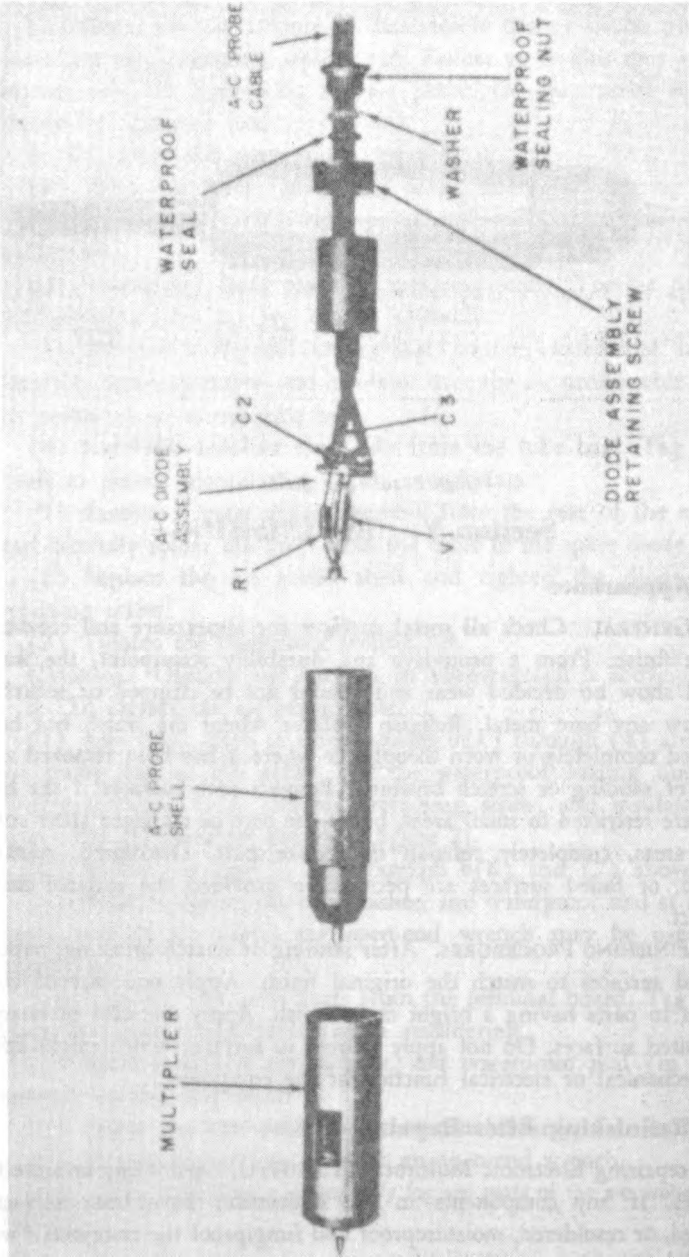

Figure 21. Exploded view of a-c probe.
(1) With one hand, grasp the diode assembly retaining screw to prevent it from turning; with the other hand, loosen the waterproof sealing nut.
(2) Loosen the diode assembly retaining screw. The a-c probe shell will separate from the rest of the assembly.
(3) Slip the waterproof sealing nut, washer, waterproof seal, diode assembly retaining screw, and insulator over the a-c probe cable (fig. 21) to permit access to the tube base.
(4) Carefully unsolder the cable from the tube base. Tag the cable leads to permit identification when resoldering.
(5) Remove a spare diode assembly from the rear of the multimeter and carefully solder the leads from the cable to the spare diode assembly.
(6) Replace the a-c probe shell and tighten the diode assembly retaining screw.
(7) Tighten the waterproof sealing nut.
(1) Repeat the steps in subparagraph b(1) through (4) above at the a-c probe end of the cable. Put the waterproof sealing nut, washer, waterproof seal, diode assembly retaining screw, and insulator on the new cable in the order shown in figure 21.
(2) Repeat the steps in subparagraph b(6) and (7) above.
(3) Remove the sealing nut, washer, and waterproof seal at the multi-meter end of the cable. An open-end wrench may be used on the sealing nut.
(4) Unsolder the cable leads from the terminal board. Tag the cable leads to permit identification when resoldering.
(5) Put the sealing nut, washer, and waterproof seal (in the order named) on the new cable.
(6) Solder the new cable to the terminal board.
(7) Tighten the sealing nut with an open-end wrench.